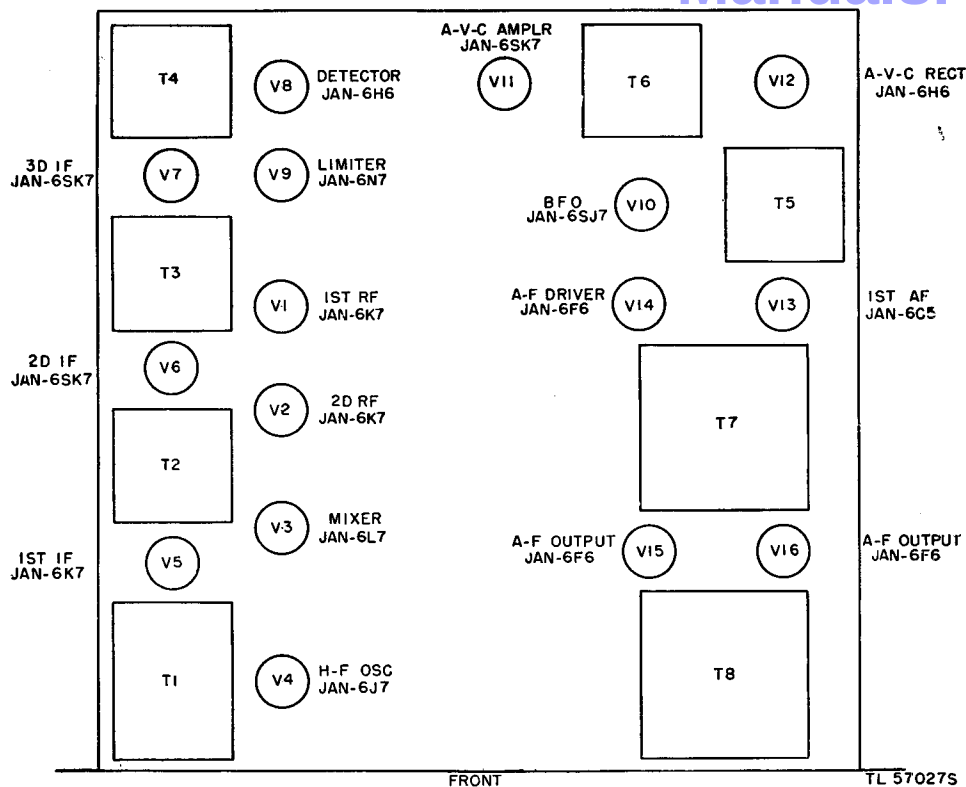

Figure 13. Radio receiver, tube location.
(1) *Receiver.* To inspect the receiver tubes, remove the dust cover by removing the thumbnuts which hold the cover to the front panel and rear edge of the chassis. A receiver tube location diagram is shown in figure 13. Their proper location, as well as the marking of their respective sockets, is clearly shown also in the etched location plates attached to the top of the tuning unit. All of the receivers use the same set of tubes.